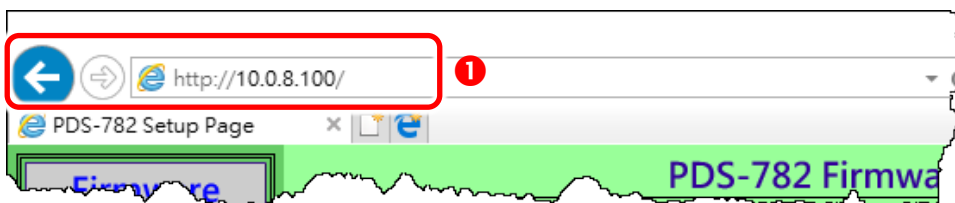

Figure 6.1-1
1. Enter the URL address of the PDS series in the address bar of the browser to log in to the web configuration pages. (refer to Figure 6.1-1 )